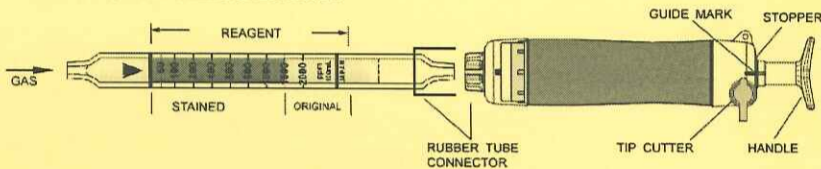

Fig.1
- ② Insert the detector tube into the aspirating pump securely as shown in Fig.1. (Arrow mark shall point to the pump.)
- ③ Align the guide marks on the shaft and stopper of the aspirating pump.
- ④ Pull the pump handle at a full stroke until it locks and wait for 1.5 minutes or until the completion of sampling is confirmed with the flow indicator of the pump. (See descriptions about the flow indicator in the instruction manual of the pump.)
- ⑤ On completion of sampling, read the scale at the maximum point of the stained layer.
- ⑥ In case of 2 pump strokes, push back the handle without removing the detector tube from the rubber tube connector so that air in the pump will be discharged perfectly. Then repeat the step ③~④ once more.
- ⑦ In this case, read the scale at the maximum point of the stained layer and then multiply the reading value by 0.4 after temperature correction undermentioned. (REFER TO ITEM 3. CORRECTION FOR AMBIENT CONDITIONS.)
- ⑧ If the discolouration is over the full scale (2000ppm), a 1/2 (50mL) pump stroke sampling is available. Insert the new detector tube into the pump inlet and pull the pump handle at a 1/2 pump stroke (to 50mL line), and it will be automatically locked. Leave it for 45 seconds as it is.
- ⑨ Remove the detector tube from the pump and read the scale at the maximum point of the stained layer.
- ⑩ Then multiply the reading value by 2.5 after temperature correction undermentioned. (REFER TO ITEM 3. CORRECTION FOR AMBIENT CONDITIONS.)